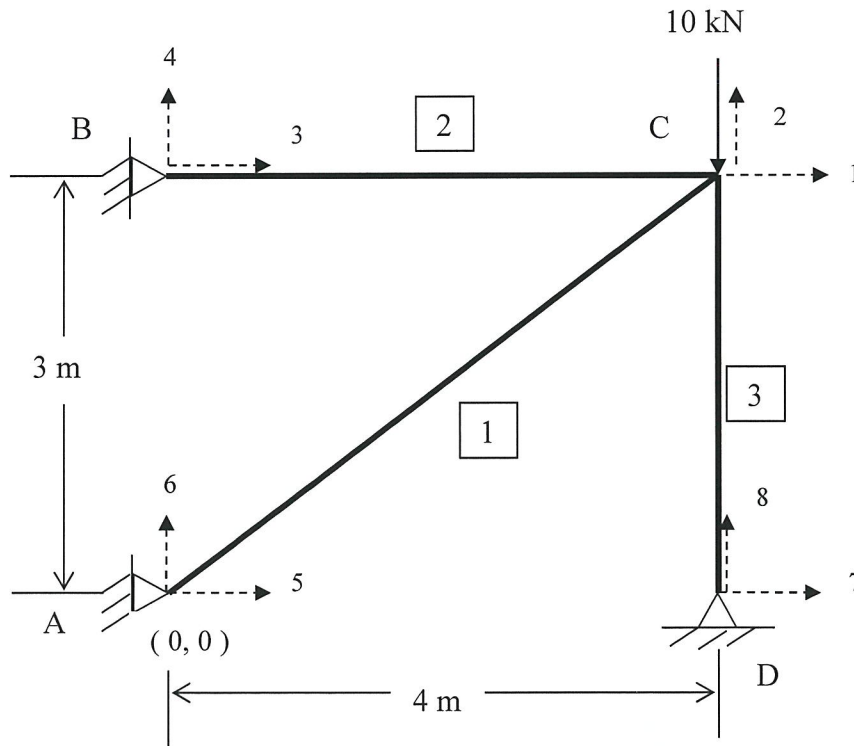

FIGURE Q2(b)
- (b) A three member truss as shown in **FIGURE Q2(b)** is pinned supported at points A, B and D. Point load of 10 kN is acting downward at point C. Determine: